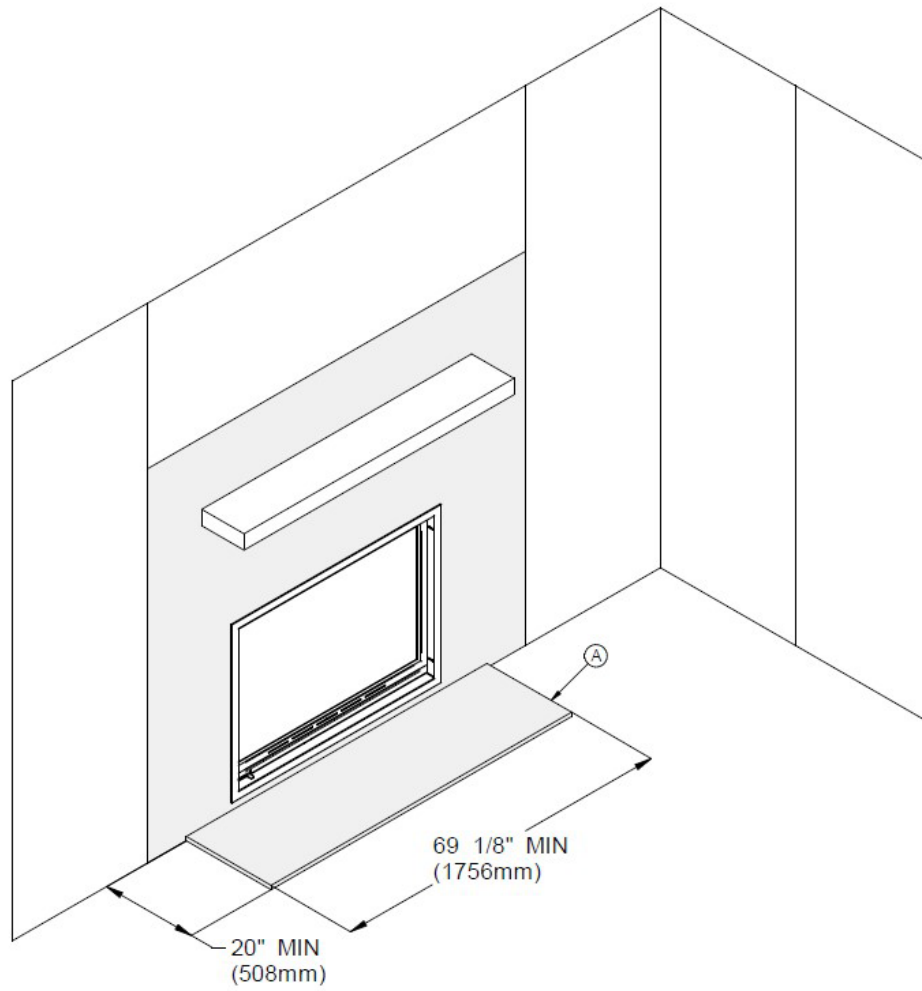
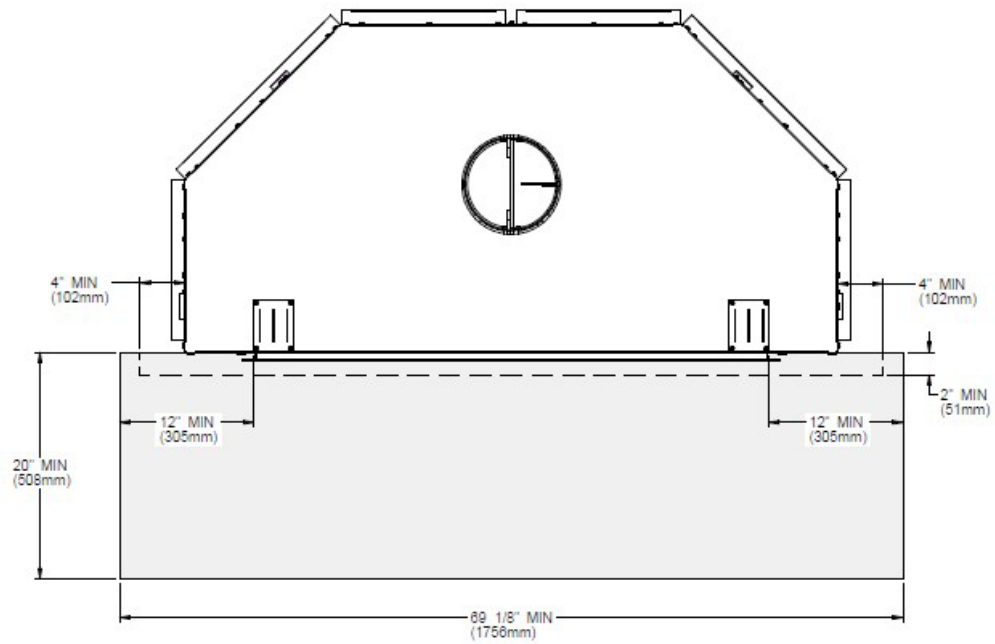

Figure 4
Figure 5
The hearth extension floor area (**see (A), Figure 4**) must extend at least 20" (50 cm) in front and at least 12" (30 cm) on each side of the door opening (**see Figures 5 and 6**). The joint between the hearth extension and the fireplace hearth needs to be made of non-combustible material such as sheet metal or sand-cement grout (not included) as shown on **Figure 6**.
WARNING: THE HEARTH EXTENSION IS TO BE INSTALLED ONLY AS ILLUSTRATED (see Figures 5 and 6).